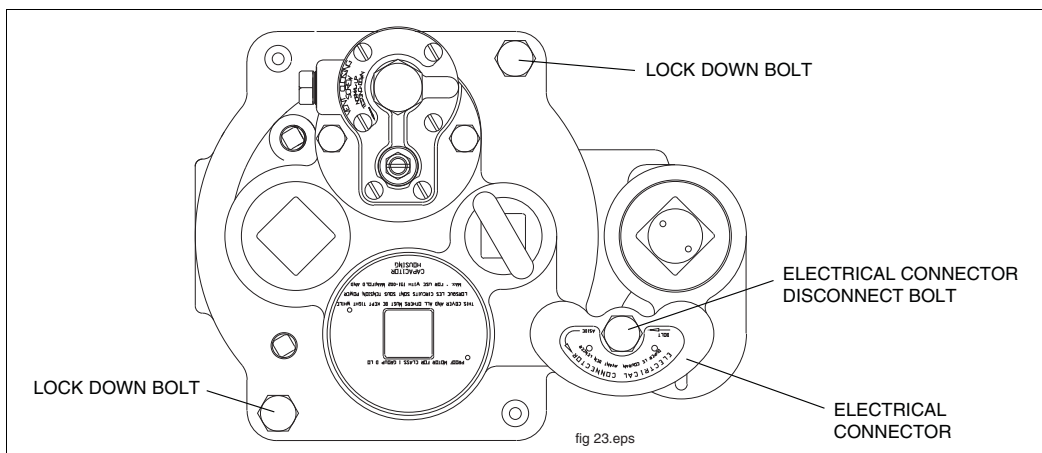

Figure 28. Packer
2. Back out the electrical yoke disconnect bolt (see Figure 28).
3. Back out the electrical yoke disconnect bolt (see Figure 28 on page 32).